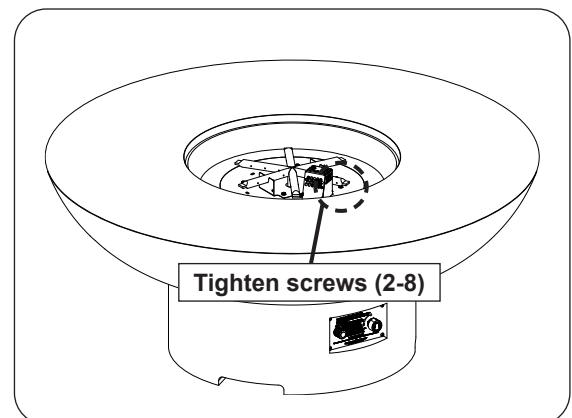

Fig. 41-3 Secure burner
2. Use a  $5/16$ " nut driver to fasten the burner to the base (see Fig. 41-3).